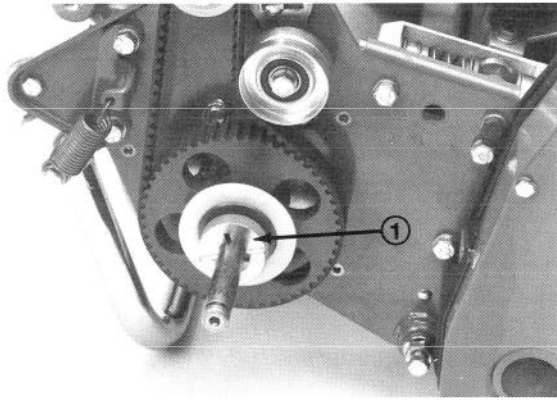

Figure 5
3. Slide a lock collar onto axle. Be sure the step in the collar faces out and the key on the axle engages the key way in the lock collar (Fig. 5).